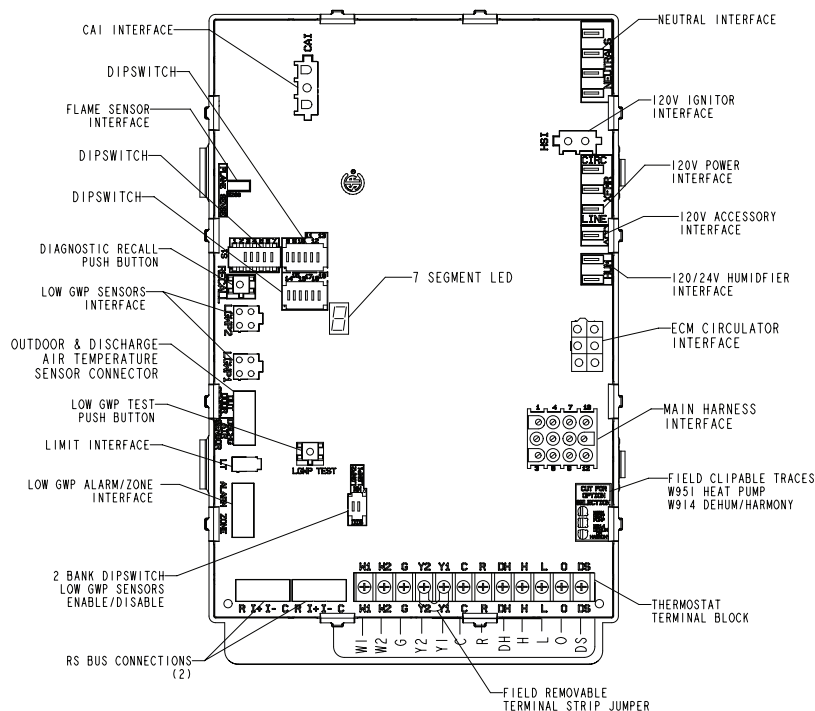

FIGURE 49
- 7 - One line voltage "EAC" 1/4" spade terminal is provided on the furnace integrated control. Any electronic air cleaner rated up to one amp can be connected to this terminal with the neutral leg of the circuit being connected to one of the provided neutral terminals. See FIGURE 49 for location of terminal. This terminal is energized when the indoor blower is operating.
- 8 - One line voltage "HUM" 1/4" spade terminal is provided on the furnace integrated control. Any humidifier rated up to one amp can be connected to this terminal with the neutral leg of the circuit being connected to one of the provided neutral terminals. See FIGURE 49 for location of terminal. This terminal is energized in the heating mode when the indoor blower is operating.
- 9 - One 24V "H" terminal is provided on the furnace integrated control terminal block. Any humidifier rated up to 0.5 amp can be connected to this terminal with the ground leg of the circuit being connected to either ground or the "C" terminal. See FIGURE 49 for location of terminal.